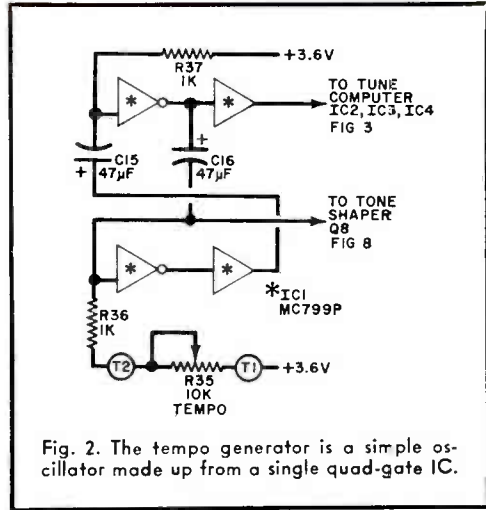

Fig. 2. The tempo generator is a simple oscillator made up from a single quad-gate IC.
**Tempo Generator.** This circuit, shown in Fig. 2, contains a single integrated circuit (IC1) operating as an astable multivibrator. Two square wave outputs are produced—one